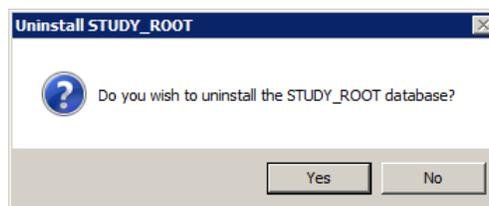

Figure 2-35 Uninstall STUDY\_ROOT Database
6. A dialog box will open to confirm the removal of the STUDY\_ROOT database. Click Yes to uninstall (Figure 2-35).